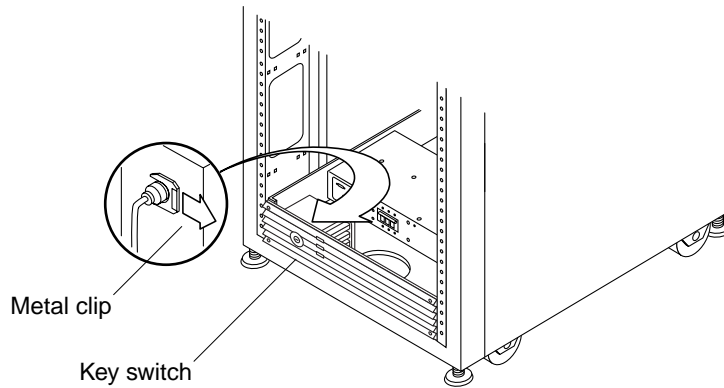

FIGURE 5-2 Removing and Replacing the Key Switch
4. Facing the back of the key switch on the inside of the cabinet, use a pair of needlenose pliers to slide out and remove the metal clip that secures the key switch to the cabinet (FIGURE 5-2).
2. Facing the back of the key switch on the inside of the cabinet, slide the metal clip onto the notch of the key switch body to secure it in place (FIGURE 5-2).